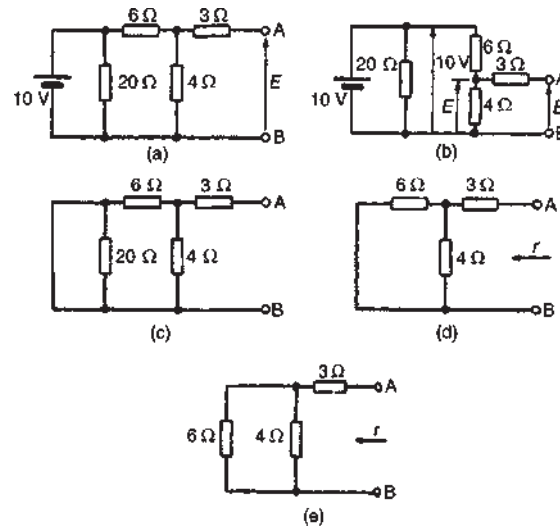

Figure 13.33
- (v) For the circuit shown in Fig. 13.33(a), the 3Ω resistor carries no current and the p.d. across the 20Ω resistor is 10 V . Redrawing the circuit gives Fig. 13.33(b), from which
- (vi) If the 10 V battery in Fig. 13.33(a) is removed and replaced by a short-circuit, as shown in Fig. 13.33(c), then the 20Ω resistor may be
removed. The reason for this is that a short-circuit has zero resistance, and 20Ω in parallel with zero ohms gives an equivalent resistance of $(20 \times 0)/(20 + 0)$ i.e. 0Ω . The circuit is then as shown in Fig. 13.33(d), which is redrawn in Fig. 13.33(e). From Fig. 13.33(e), the equivalent resistance across AB,